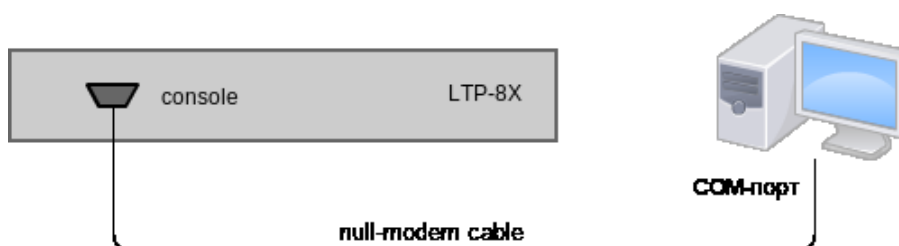

Fig. 8.1. Connecting the Terminal to a PC via COM Port
Step 1. Use the null modem cable from the delivery package to connect the console port of the terminal to the PC COM port as shown in Fig. 8.1.